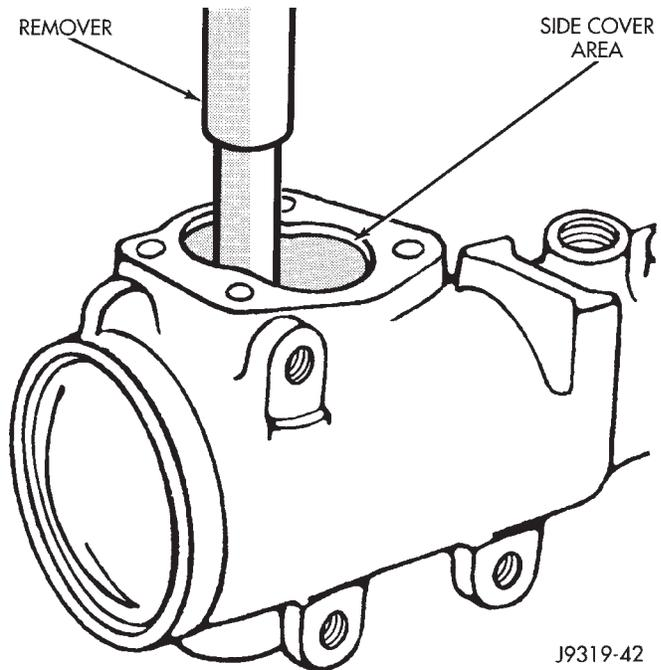

Fig. 10 Needle Bearing Removal
- (8) Remove retaining ring with snap ring pliers.
- (9) Remove washer from the housing.
- (10) Remove oil seal from the housing with a seal pick.
- (11) Remove pitman shaft bearing from housing with a bearing driver and handle (Fig. 10).